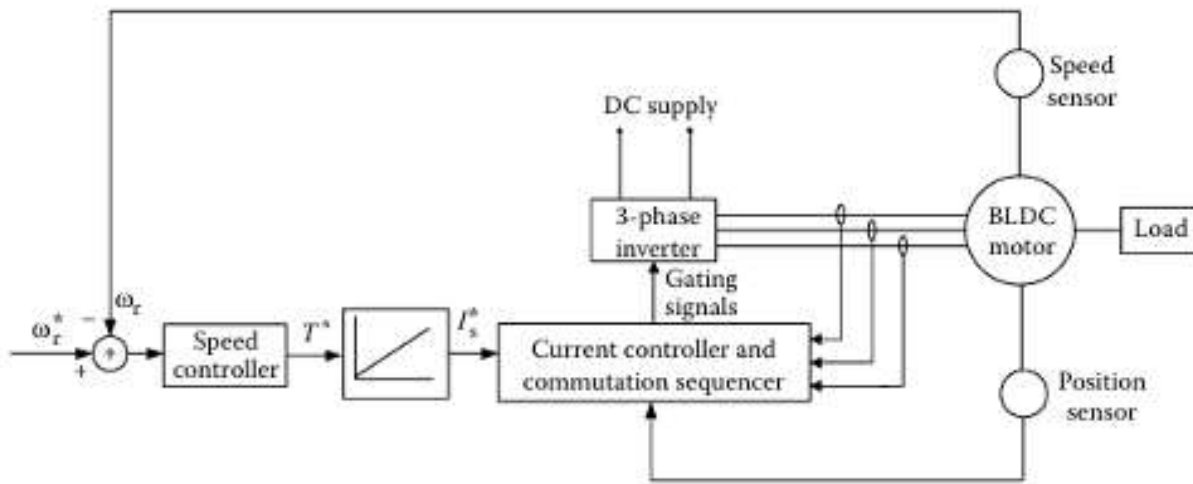

Figure 10: Block diagram of the speed control of the BLDC motor.
(see Figure 10). Many high-performance applications include current feedback for torque control. At the minimum, DC bus current feedback is required to protect the drive and machine from over-currents. The controller blocks, “speed controller” may be any type of classical controller such as a proportional-integral (PI) controller or a more advanced controller such as an artificial intelligence control. The “current controller and commutation sequencer” provides the properly sequenced gating signals to the “three-phase inverter” while comparing sensed currents to a reference to maintain a constant peak current control by hysteresis (current chopping) or with a voltage source (PWM)-type current control. Using position information, the commutation sequencer causes the inverter to “electronically commute,” acting as the mechanical commutator of a conventional DC machine. The commutation angle associated with a brushless motor is normally set so that the motor will commute around the peak of the torque angle curve. Considering a three-phase motor, connected in Delta or wye, commutation occurs at electrical angles, which are plus or minus 30° (electrical) from the peaks of the torque-angle curves. When the motor position moves beyond the peaks by an amount equal to